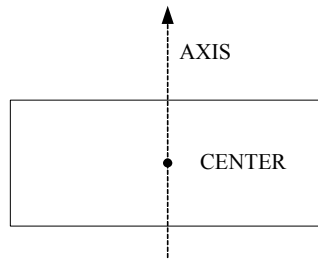

Figure 2: Front view of the receiving horn antenna
3. Rotate the receiving antenna about its center (Figure 2) from -90 degrees to $+90$ degrees in steps of 10 degrees. In each setting, read the received power from the meter or the oscilloscope. (*Note: The oscilloscope may provide a finer resolution*).
4. Readjust the receiving antenna for maximum reception and repeat step (3) using the polarizing screen.
1. Connect the circuit shown in Figure (1).
3. Rotate the receiving antenna about its axis (Figure 2) from -90 degrees to $+90$ degrees in steps of 10 degrees. In each setting, read the received power from the meter or the oscilloscope. (*Note: The oscilloscope may provide a finer resolution.*)